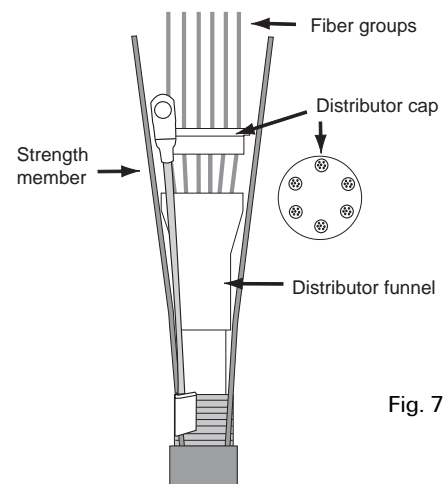

Fig. 7
9. Place one fiber group in each hole of the distributor cap. (Figure 7)